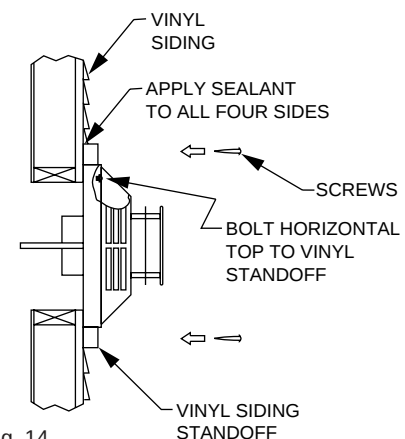

Fig. 14
Position the horizontal vent termination in the center of the 11 1/2" x 12" hole, and attach to the exterior wall with the four wood screws provided. Before attaching the Vent Termination to the exterior wall, run a bead of non-hardening mastic around it's outside edges, so as to make a seal between it and the wall. The arrow on the vent cap should be pointing up. Insure that proper clearances to combustible materials are maintained. (Figure 14)
(1) The four wood screws provided should be replaced with appropriate fasteners for stucco, brick, concrete, or other types of sidings.
(2) For buildings with vinyl sidings, a Vinyl Siding Standoff (Part 950), should be installed between the vent cap and the exterior wall. (Figure 14). Attach the Vinyl Siding Standoff to the Horizontal Vent Termination. The Vinyl Siding Standoff prevents excessive heat from possibly melting the vinyl siding material.